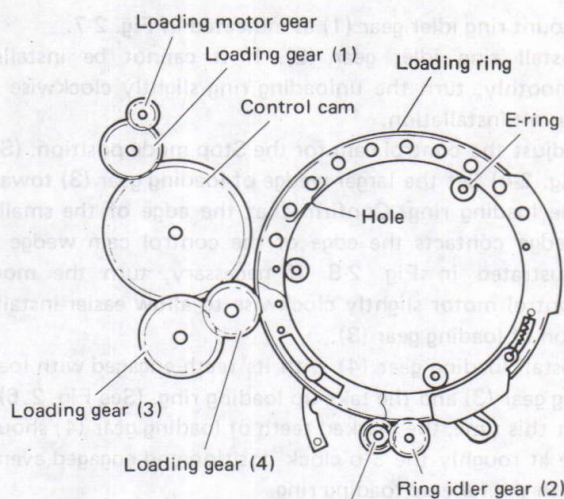

Fig. 2-6 Loading gear (3)
2. Install the rings in this configuration. At this time, it may be easier to secure one of the three E-rings completely first (see Fig. 2-6).
6. Install loading gear (4) with its teeth engaged with loading gear (3) and the take-up loading ring. (See Fig. 2.6) At this time, the marked teeth of loading gear (4) should be at roughly the 3 o'clock position and engaged evenly with the take-up loading ring.
7. Repeat loading and unloading operations several times. Confirm that the marked teeth of loading gear (4) come to correct position with respect to the loading ring and that mechanical operation is normal.
8. If mechanical operation is incorrect, again perform re-assembly. Use care not to damage loading gear (1).